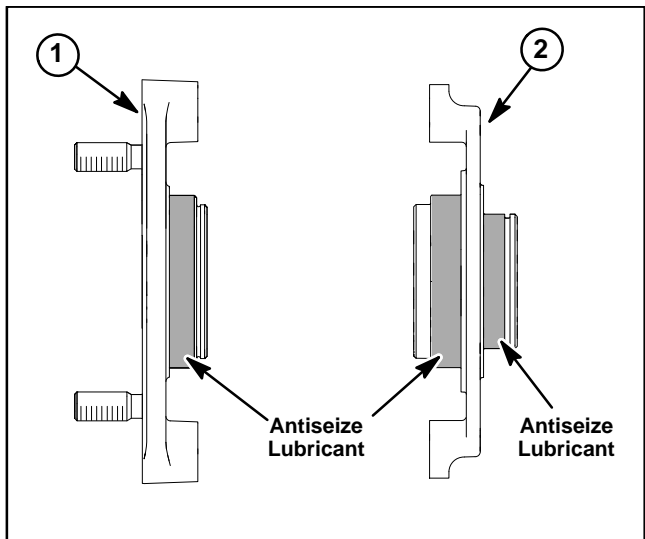

Figure 6
B. Apply antisieze lubricant to the outside diameter of the pivot hub and position pivot hub to cutting unit (Fig. 6).
C. Apply Loctite to two (2) socket head screws and secure pivot hub to cutting unit side plate.
C. Apply antisieze lubricant to the outside diameter of the pivot hub and position pivot hub to cutting unit (Fig. 6). Apply Loctite to two (2) socket head screws and secure pivot hub to cutting unit side plate.